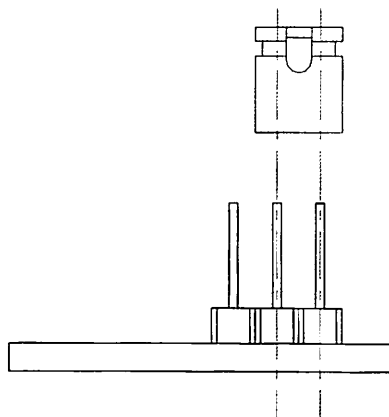

Figure 2
- 2) When customer needs remote lamp, please insert terminal to Y. (See Figure 2 below)